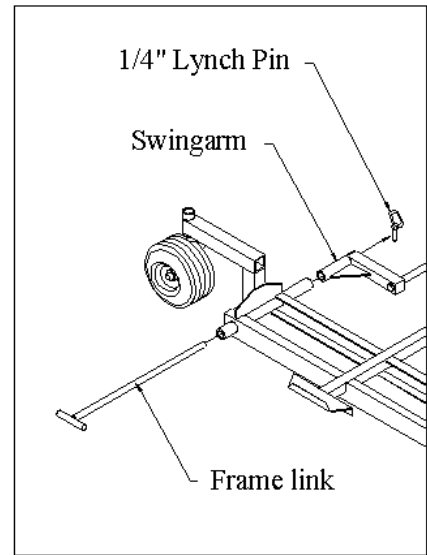

Fig. 5
6. Align rear frame tube with swingarm tube and slip frame link (10) thru. Secure with $\frac{1}{4}$ " lynch pin (#). **Fig. 5**